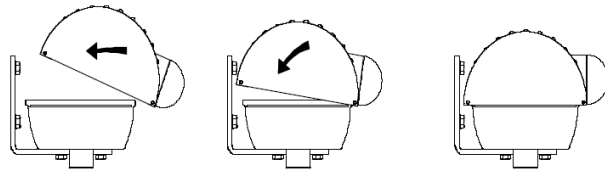

Fig 7. Seating the cover
1. Hold the cover over the motor, with the front of the cover angled toward you. Rock the cover rearward (fig. 7) until the cover is seated. The cover must be installed in this way so that the Manual Operation can engage properly with the motor (fig 8).